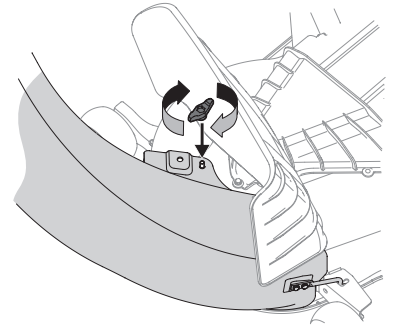

Figure 21
6. Secure the boot elbow to the cutting deck using a wing knob (720-04122) included in hardware pack 689-02364. Refer to Figure 21.
IMPORTANT! Be certain that the bottom of the boot is located inside the lip of the deck opening, as shown in Figure 21.